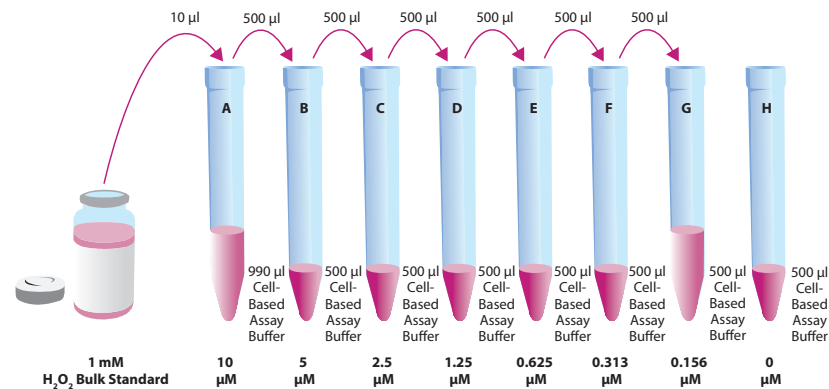
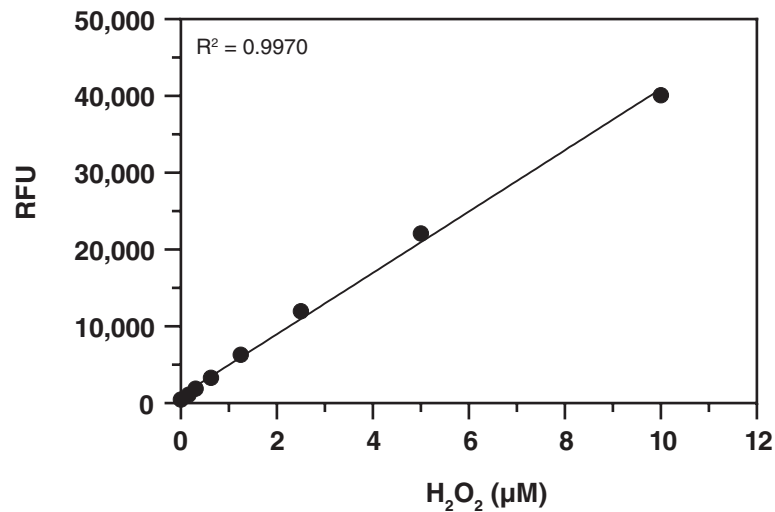

Figure 2. Preparation of the  $\text{H}_2\text{O}_2$  standards for the fluorometric assay format
Figure 3.  $\text{H}_2\text{O}_2$  standard curve for the fluorometric format
3. Plot the CSM values of each standard as a function of the final concentration of  $\text{H}_2\text{O}_2$  from Figure 2 on page 13 or Table 1 on page 14, respectively. See Figures 3 and 4, on pages 17 and 18, for typical standard curves.
4. Subtract the catalase sample fluorescence or absorbance from the non-catalase sample fluorescence or absorbance to yield the corrected sample signal (CS).